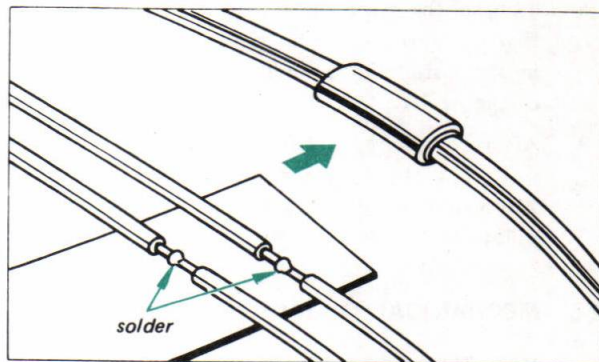

Fig. 2-14. Stereo lamp replacement
3. Cut the lamp leads and solder the lead wires to the new lamp as shown in Fig. 2-14.